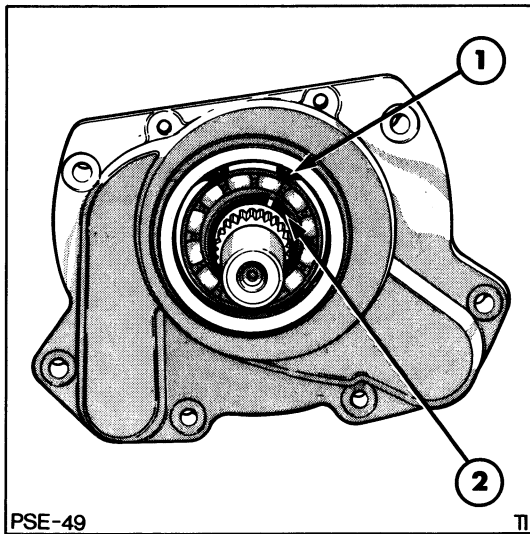

Figure 49
1. Remove the inner and outer snap rings retaining the P.T.O. shaft rear bearing to the shaft and oil pump housing, Figure 49.